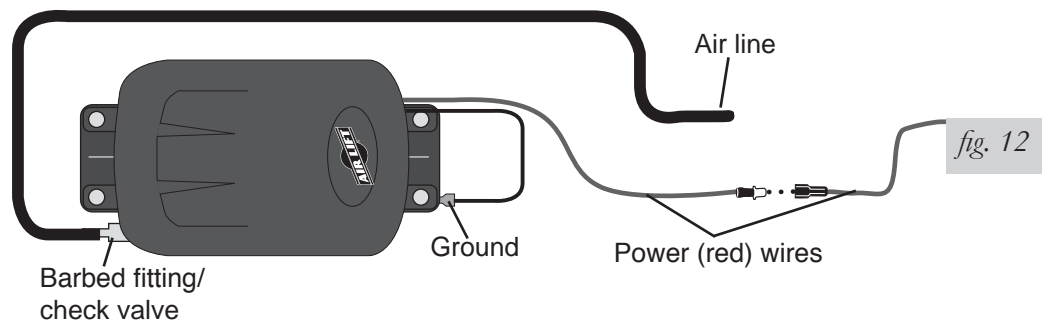

fig. 12
1. Push the air line onto the barb fitting on the compressor. Make sure the air line covers all barbs. A small amount of water or lubricant and pushing with a slight circular motion will ease installation (fig. 12).